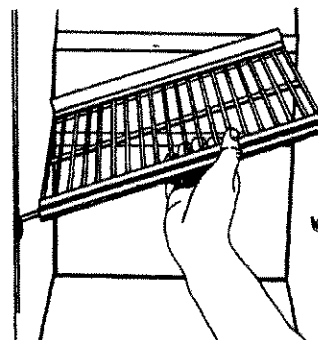

Figure 28
- Tilt shelf up and to left until shelf rods release from holes in left side wall. See Figure 28.